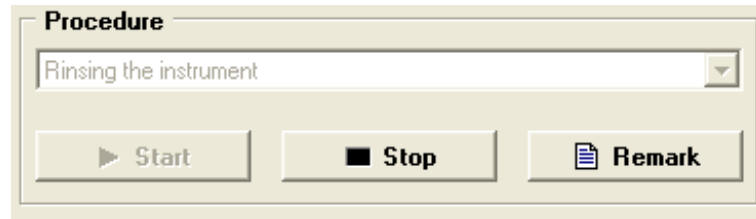

Figure 20: Stop procedure
- Stop: Select the “Stop” button to open the selection window. (Figure 20)